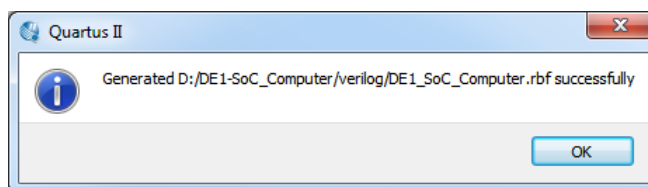

Figure 35. The .rbf file successfully generated.
7. We are now ready to generate the .rbf file. Click `Generate`. If all goes well, you will see the success message shown in Figure 35.